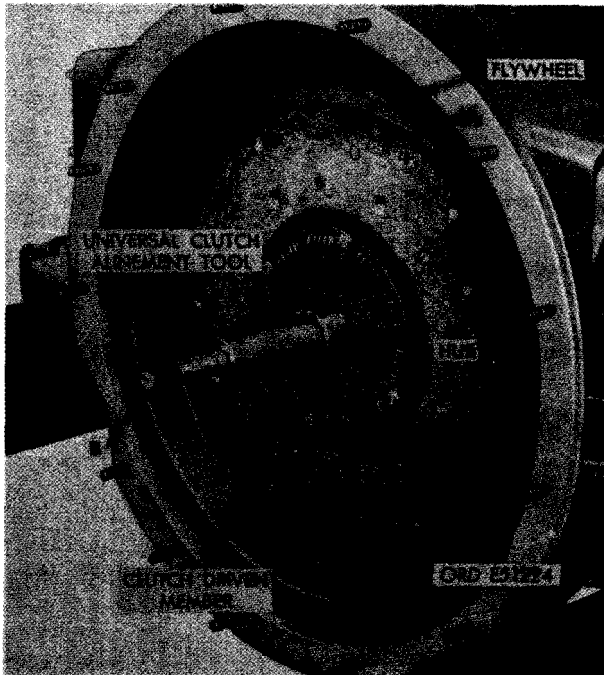
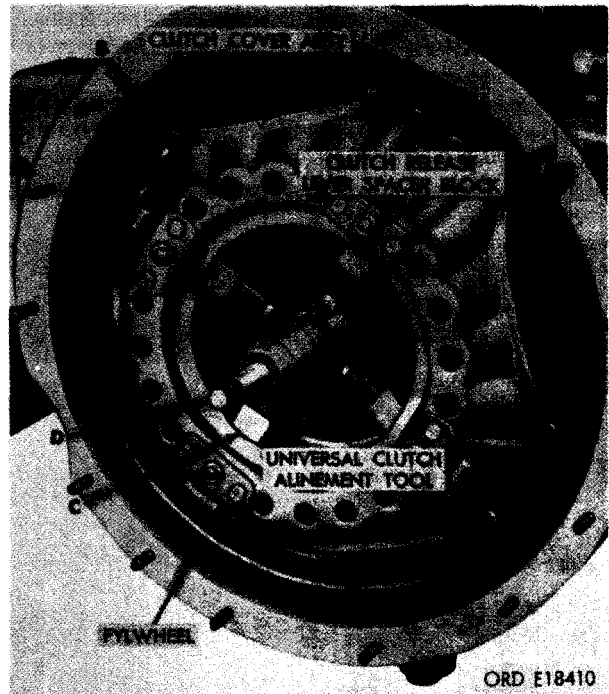

FIGURE 483. INSTALLING CLUTCH DRIVEN MEMBER USING UNIVERSAL CLUTCH ALIGNMENT TOOL.
FIGURE 484. INSTALLING CLUTCH COVER ASSEMBLY.
- (1) Figure 483. (A) Position clutch driven member against flywheel with long portion of hub facing out away from flywheel. (B) Install universal clutch alignment tool through hub splines and into bushing-type pilot bearing in end of crankshaft. The alignment tool will hold clutch driven member in position while installing clutch cover assembly (fig. 484).
- (2) Figure 484. (A) Position clutch cover assembly against driven member and align screw holes in clutch cover with holes in flywheel. (B) Secure clutch cover assembly to flywheel using eight 3/8-inch lock washers and 3/8 x 15/16 cap screws. (C) Depress clutch release levers and remove the four clutch release lever spacers. (D) Remove the universal clutch alignment tool.